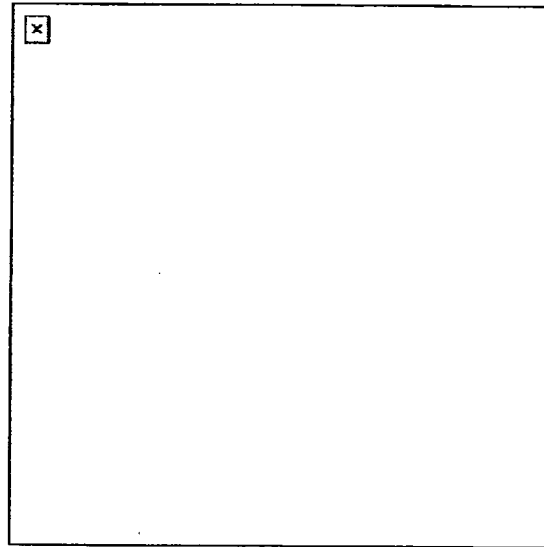

Figure 4. Disassembly of the magazine.
- i. Disassemble the magazine (Figure 4).
- (1) Attach a bore brush to a cleaning rod. Moisten the bore brush with CLP and insert it into the chamber end of the barrel. Make sure the brush completely clears the muzzle before you pull it back through the bore. Repeat this procedure several times to loosen carbon deposits.
- (2) To clean and dry the barrel, push a clean swab through the bore. Repeat as necessary with fresh swabs until a swab comes out clean.
- (3) Clean locking block with a soft brush.
- (4) Clean the recoil spring and spring guide with CLP and a soft brush or cloth.
- d. Magazine (Figure 4).
- (1) Wipe the magazine tube and the follower with CLP, a cloth, and a soft brush.
- (2) Clean the magazine spring, floor plate retainer, and floor plate with a clean cloth.
- (1) Check for bends, chips, and cracks.
- (2) Check to ensure the slide stop and magazine stop move freely.
- (3) Check the guide rails for excessive wear, burr, cracks, or chips.
- e. Magazine assembly (Figure 4).
- (1) Check for damage to the spring and follower.
- (2) Inspect magazine lips to ensure they are not bent excessively and to ensure they have no cracks and burrs.
- (3) Check to ensure the magazine tube is not bent.